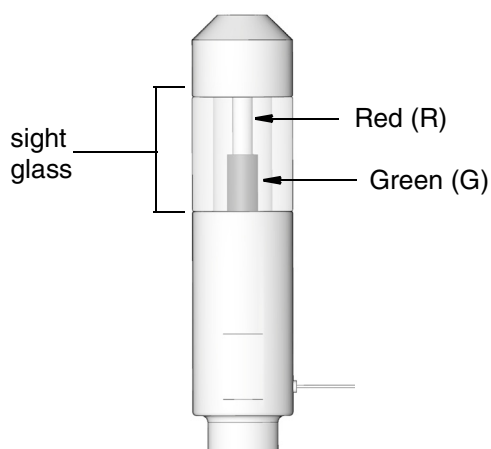

FIG. 16
Low Level Range (FIG. 16) - Red rod (R) is partially covered by the green tube (G). Some red is partially visible at the top of the sight glass. This appearance indicates that the lubrication supply container is approaching the low level mark and needs to be refilled.